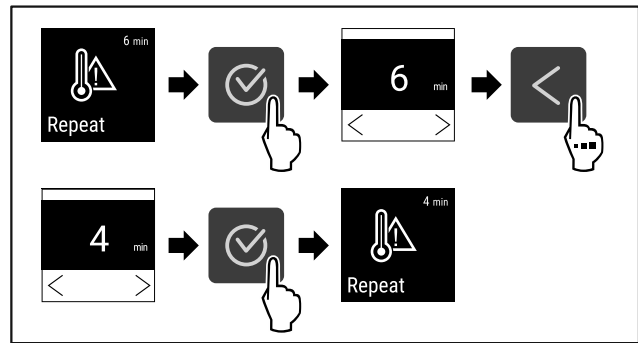

Fig. 101
- ▶ Complete steps (see Fig. 101).